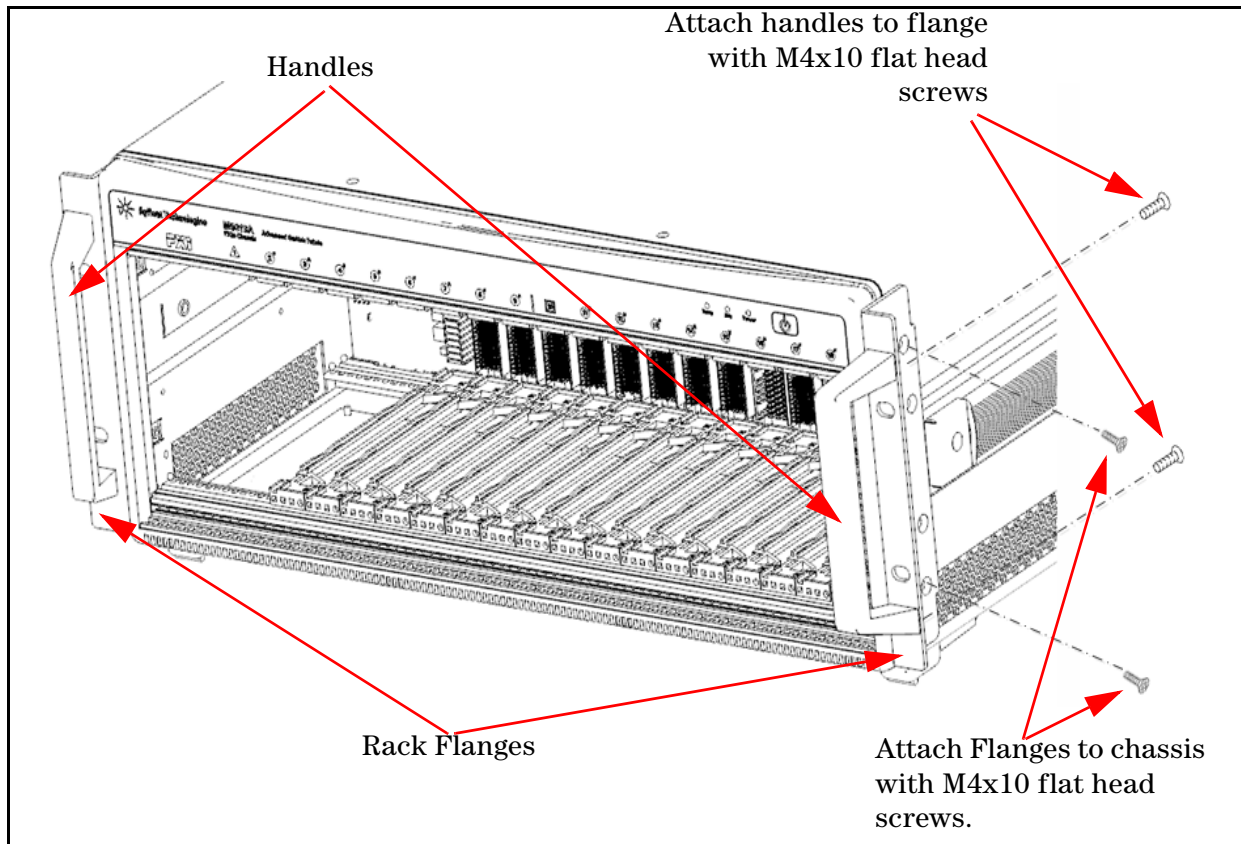

Figure 3 . Attaching Handles and Rack Mount Flanges to M9018A Chassis
- 4 Optional Step. Attach the handles to the rack mount flanges using the 10-32 x 0.375 flat head screws. Refer to Figure 3.
- 5 Attach the rack mount front handle flanges to the chassis. Refer to Figure 3.